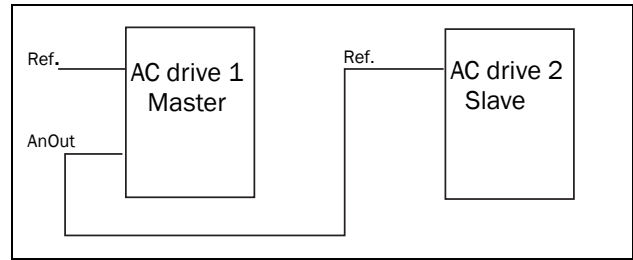

Fig. 115
- a reference signal for the next AC drive in a Master/Slave configuration (see Fig. 115).